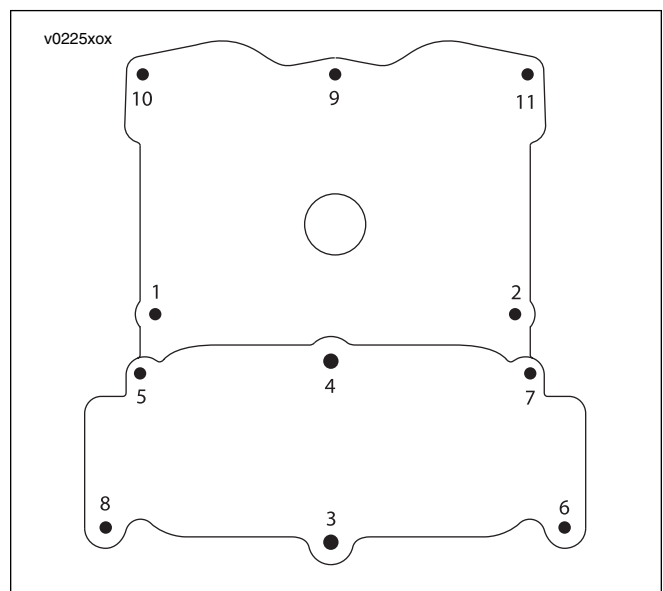

Figure 1-71. Cam Cover Torque Sequence
- See Figure 1-71. Loosen all cam cover fasteners in reverse order of torque sequence.